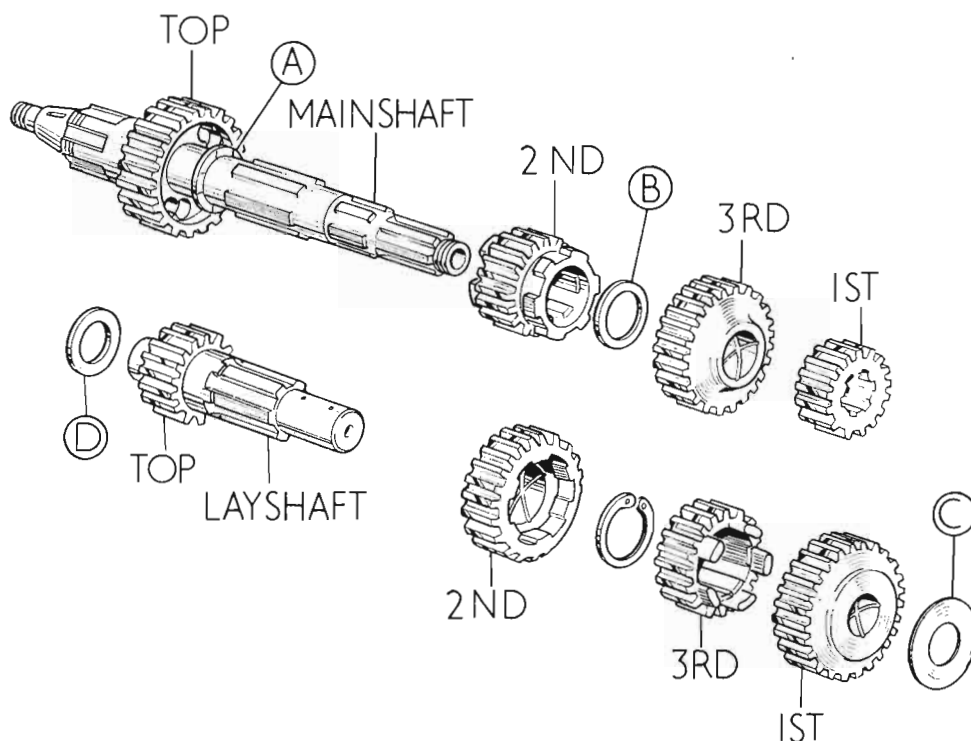

FIG. B.35. Gear cluster exploded.
Holding the cover face down, place the layshaft low gear with its shim (C) Fig. B.35, and sliding gear (third) in position on the cover. Fit its selector fork, the roller being located in the lower cam plate track.
A thrust washer (*D*) is fitted to the drive-side end of the layshaft when there should be just perceptible end float. The mainshaft, being locked to the inner cover, does not need checking for end float but excessive movement between the gears and the ends of the splines must be corrected by fitting the appropriate spacers. See Fig. B.35 for position of each spacer, the thicknesses and part numbers of which are as follows:—